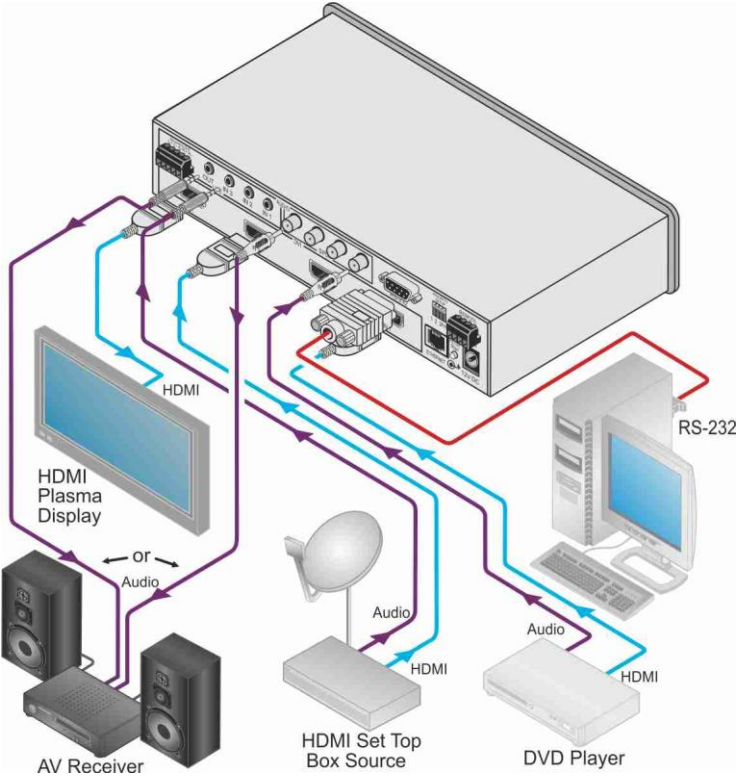

Figure 2: Connecting the VS-311H Automatic HDMI/Audio Switcher
To connect the **VS-311H** as illustrated in the example in Figure 2:
8. Connect the 12V DC power adapter to the power socket and connect the adapter to the mains electricity (not shown in Figure 2).